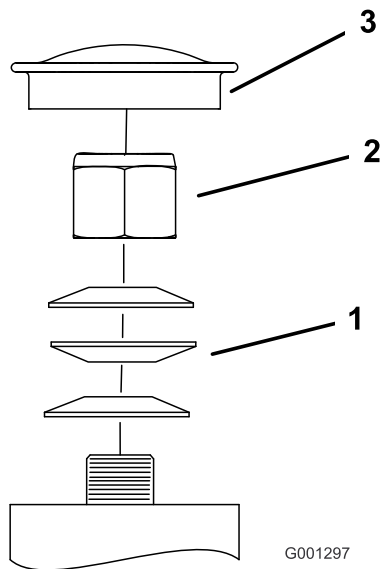

Figure 66
3. Remove the dust cap from the caster and tighten the locknut (Figure 66).
4. Tighten the locknut until the spring washers are flat and then back off a 1/4 turn to properly set the pre-load on the bearings (Figure 66).
**Important:** Make sure that the spring washers are installed correctly as shown in Figure 66.
5. Install the dust cap (Figure 66).